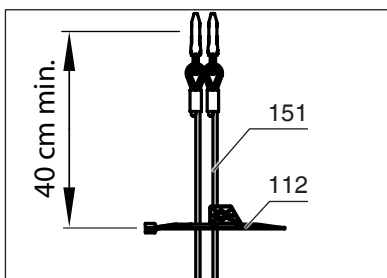

Fig. C.10 – Installation of end stop buffer plate
4. Place an end stop buffer plate (112) on the lifting wire rope (151) at least 40 cm below the suspension (fig. C.10).
5. Run the safety wire rope through the slot provided in the end stop buffer plate (112).